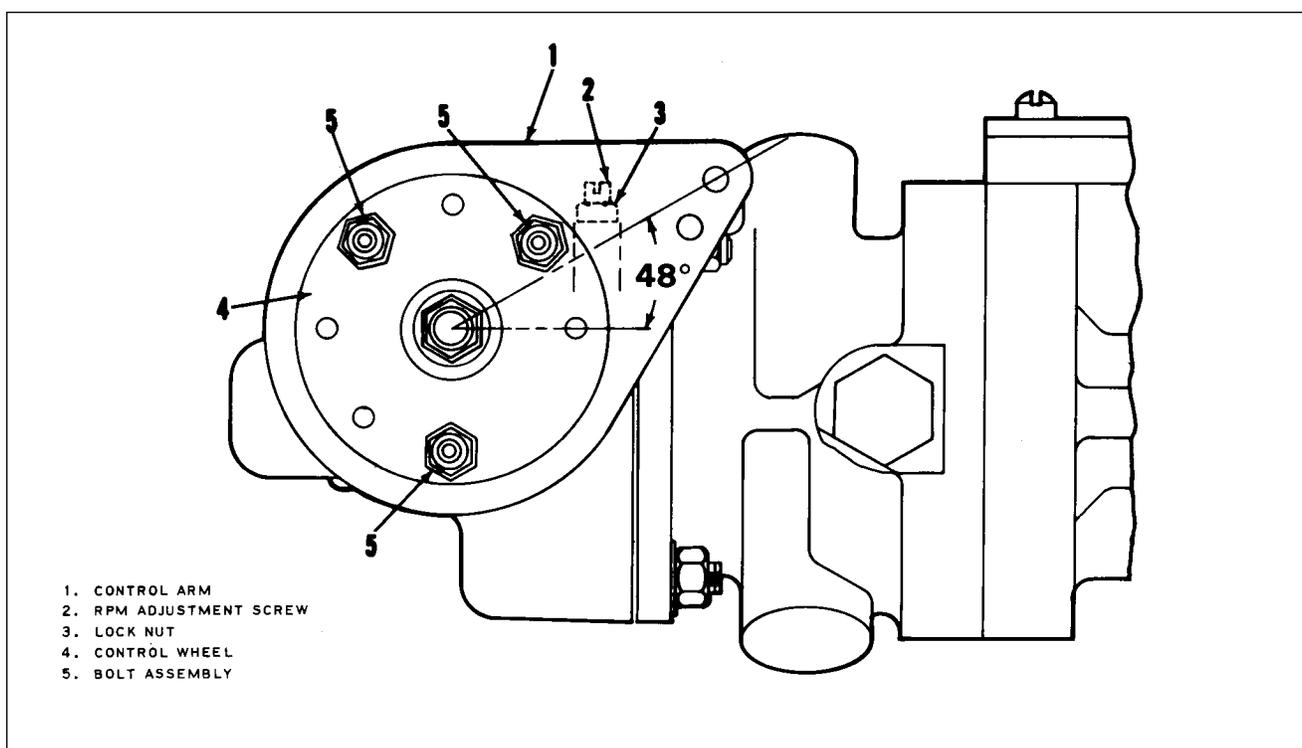

Figure 61-7. Propeller Governor
**RIGGING AND ADJUSTMENT OF PROPELLER GOVERNOR.** (Refer to Figure 61-7.)
- E. Ascertain that the governor control arm is adjusted to the proper angle on the control wheel as shown in Figure 61-7.